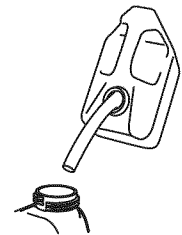

Fig. 14
2. Place the gas container's spout into the fill hole on the fuel tank and fill the tank. (Fig. 14)